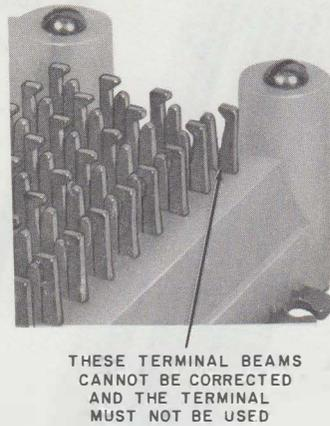

Fig. 20—Gap Spread Distorted
**6.03** Terminals which have been damaged or sprung, resulting in an obvious gap between the two contact surfaces (Fig. 20), should not be used. There is no prescribed method for correcting this condition; therefore, the connecting block should be replaced.